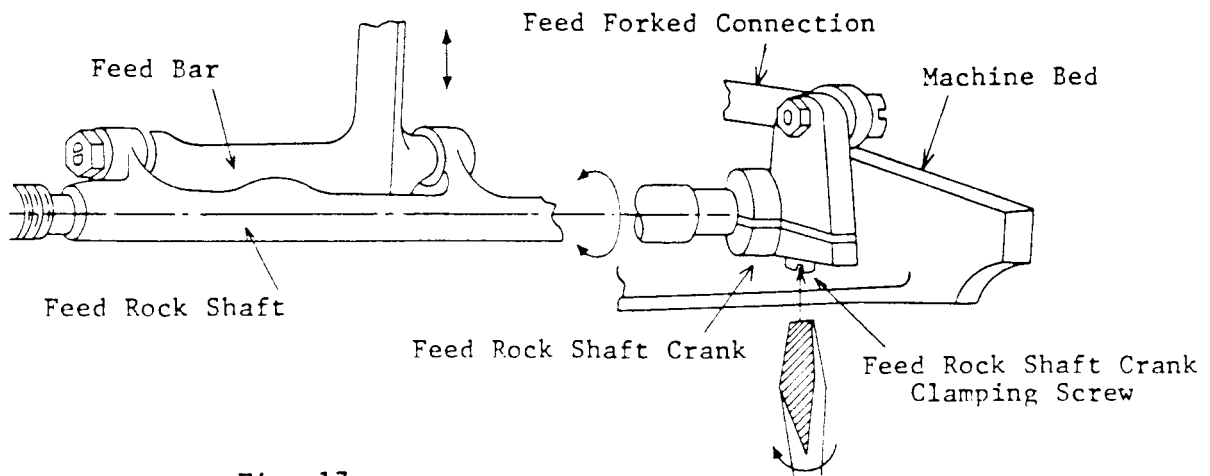

Fig. 17
2. Loosen feed rock shaft crank clamping screw (Fig. 17) and move feed bar and feed rock shaft, as required.